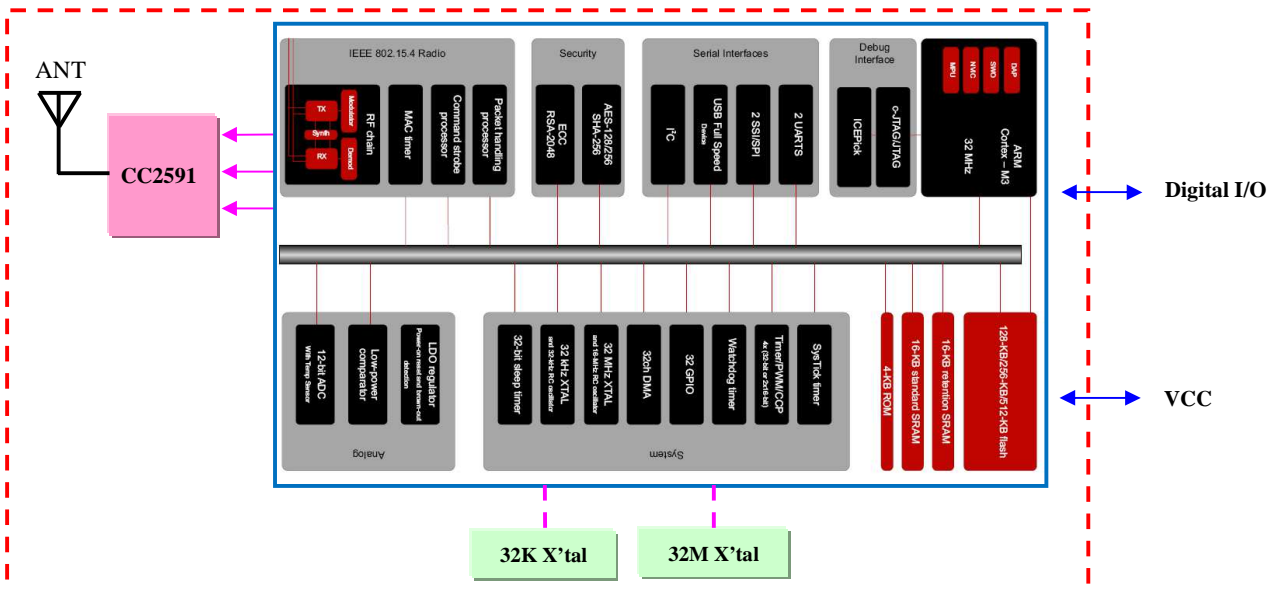

Figure 3-2: DFZM-TT21x Block Diagram
- The high power module option has a capability of +18.5dBm output power at the antenna (see Figure 3-2).